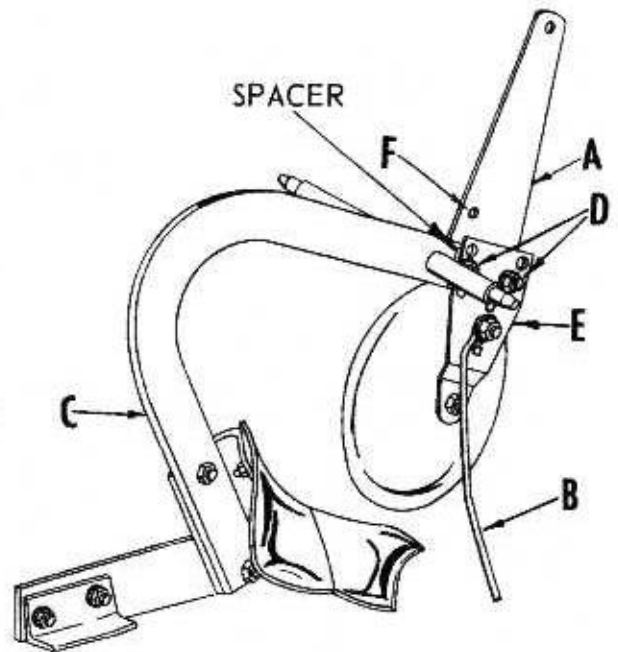

FIG. 1
A letter in parentheses in the following instructions refer to an arrow in Fig. 1.
1. Cut all wires holding Plow to wood pallet in bottom of carton. Also, cut wires holding hitch bracket (A), and weed rod (B), to plow beam (C). Remove Plow from carton.
2. Remove nuts and bolts (D), from beam (C), and coulter bracket (E), refer to Fig. 1.
3. Assemble hitch bracket (A), to beam (C), as shown in Fig. 1, with bolts (D), removed in step 2. NOTE: Extra hole (F), in hitch bracket will be toward rear of Plow.
4. Assemble coulter bracket (E) with coulter to beam using center holes as shown in Fig. 1. NOTE: Be sure spacer is replaced on rear bolt between beam and coulter bracket. Secure with lock washers and hex nuts. Tighten nuts securely. Refer to page 4 for coulter adjustment for other than normal soil conditions.
5. Attach weed rod (B), to center hole in coulter bracket (E). Position flat washer between nut and weed rod.